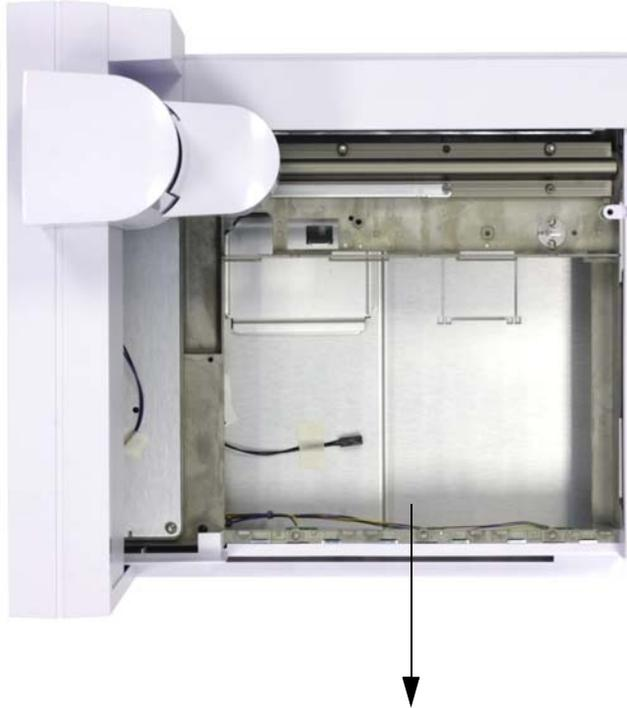

Figure 43 Removing the sample tray support plate
- 24** Remove the tray support plate by lifting the front of the plate and pulling outward towards the front of the sample tray. The support plate slides out (Figure 43).